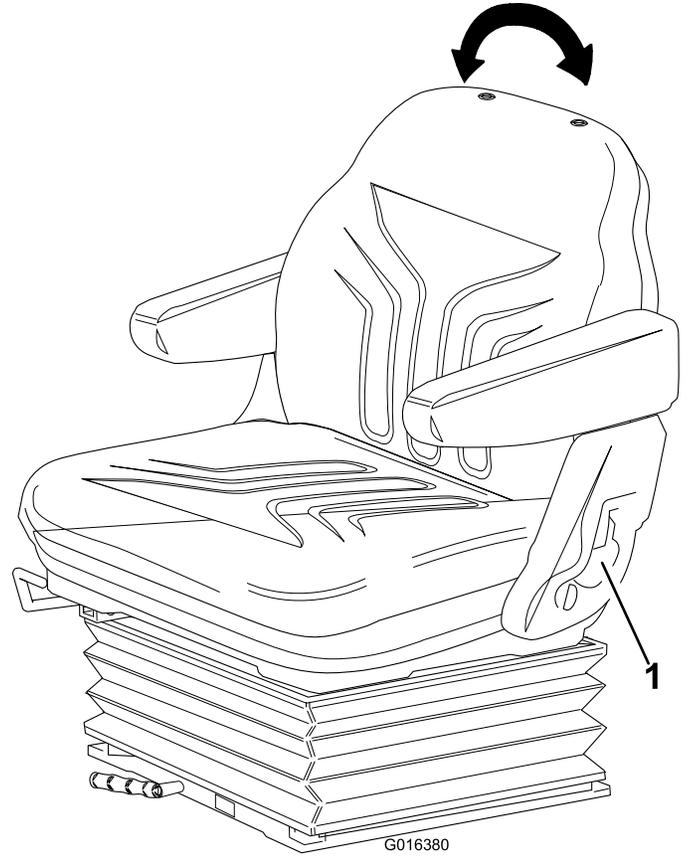

Figure 25
- **Backrest adjustment:** Pull the handle outward to adjust the seat backrest angle. Release the handle to lock the seat backrest in position (Figure 25).